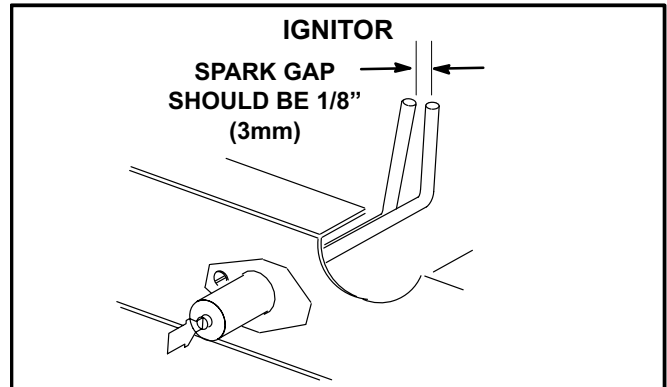

FIGURE 19
- 4- Locate the ignitor under the left burners. Check ignitor spark gap with appropriately sized twist drills or feeler gauges. See figure 19.